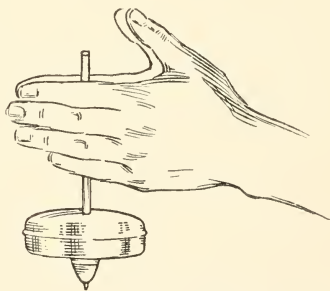

FIG. 125. — A Shoe-Polish Can Top.
**A Shoe-Polish Can Top** (Fig. 125). This is a sure-enough good looking top, and it
Spin this top in the manner shown in Fig. 125. Hold the upper part of the pencil between your hands, with the palms together, and slide your hands back and forth, first
in alternate rings with black ink or water-color, in the way shown, then cut out the disk, pierce a hole through its exact center to fit over the pencil end, and glue the under side to the top of the cone-shaped piece of spool. Spin this top in the same way as the shoe-polish can top is spun (Fig. 125).